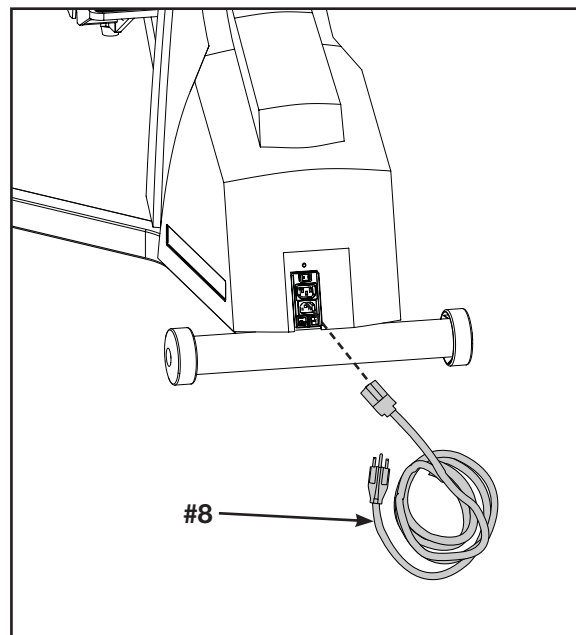

Figure 13
- A. Plug the power cord (#8) into the inlet near the front of the unit. **NOTE: Do not plug the power cord into an outlet at this time.** See Figure 13.